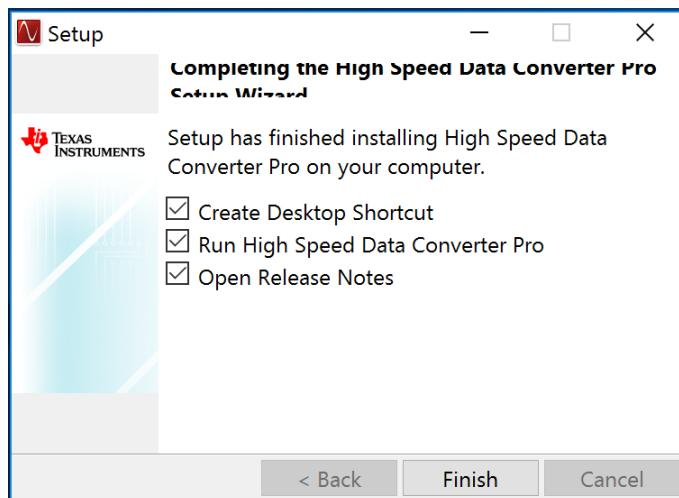

Figure 30. HSDC Pro Install (Finish Installation)
10. Finish HSDC Pro installation by choosing the appropriate installation options and pressing *Finish*, as in Figure 30.